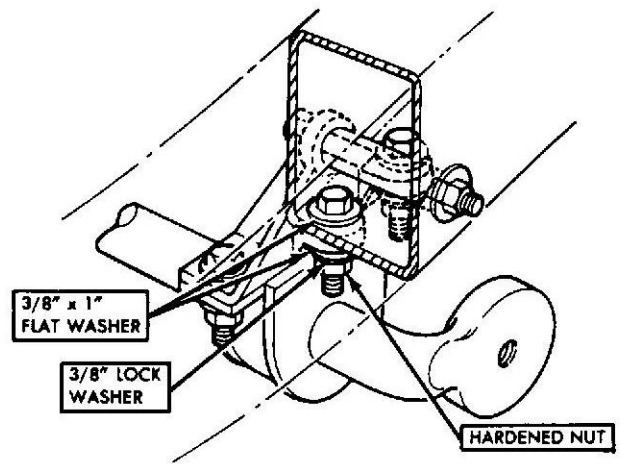

Fig. 3
(5) Place a 3/8" x 1" O.D. flat washer in spot faced area of stabilizer bar support bolt hole in bracket and slide support bracket over exposed threaded area of bolt. Use wire which was attached to shank of bolt to help pull bolt through stabilizer support bracket. Install a 3/8" lock washer and hardened nut (see Fig. 3).
(6) Tighten nut to 30 ft./lbs. (41 Newton-meters) torque.